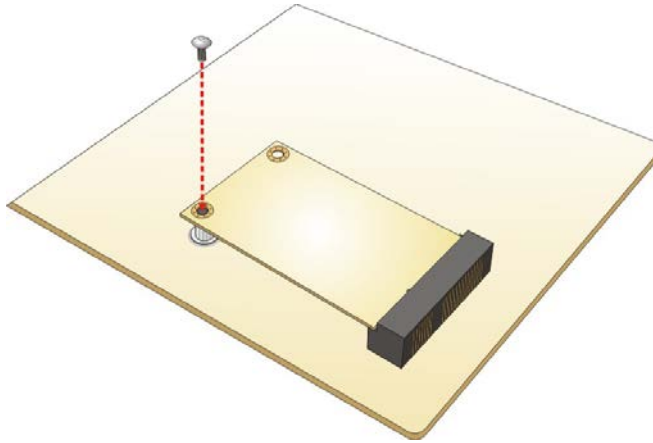

Figure 4-6: Securing the Full-size PCIe Mini Card
Step 4: Secure the M.2 module with the previously removed retention screw (**Figure 4-6**).
Step 4: Secure the full-size PCIe Mini card with the retention screw previously removed (**Figure 4-6**).